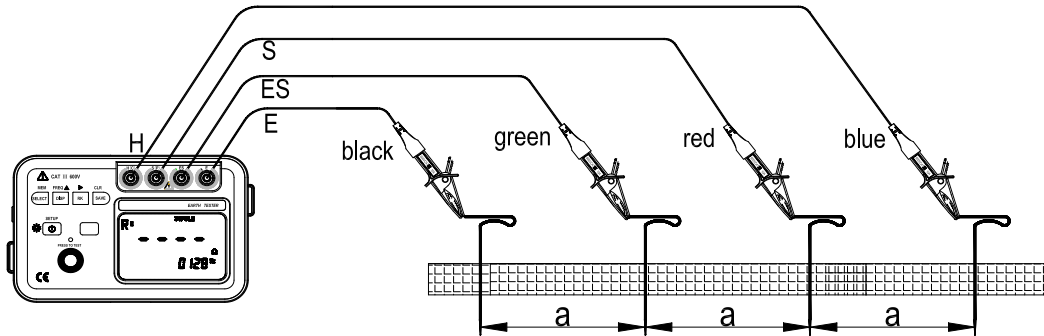

Figure 12
- (1) Press  key to select measurement method: Earth Resistivity;
- (2) Press  key to select measurement frequency (display in auxiliary display part);
- (3) Connection of Auxiliary Earth Spikes and Test Leads(See figure 12)